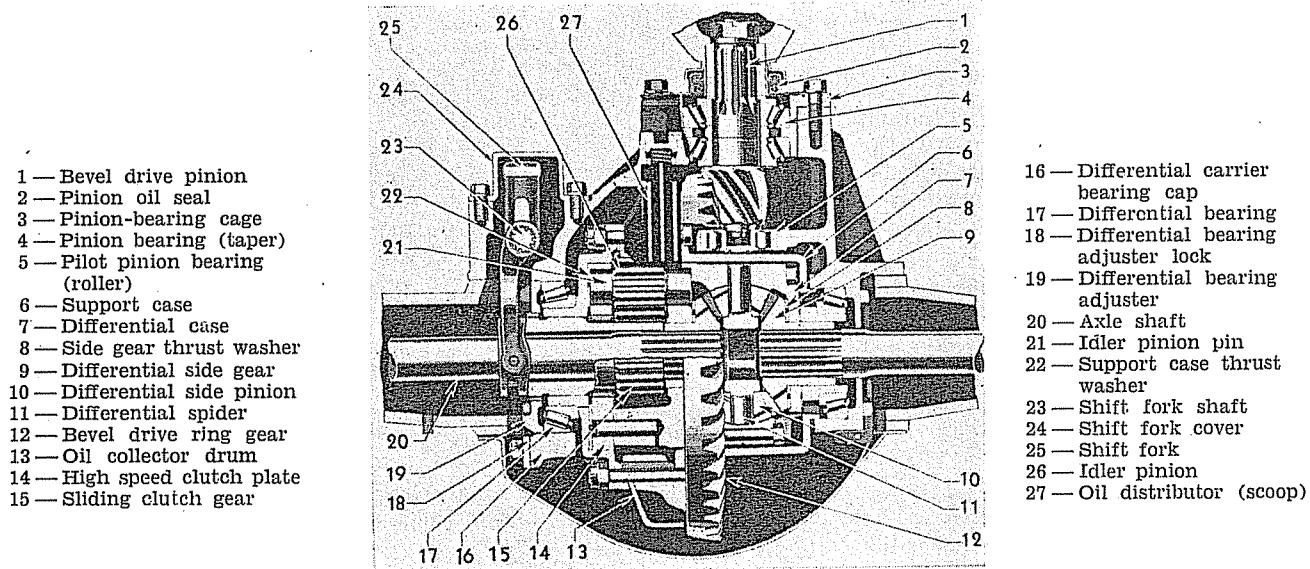
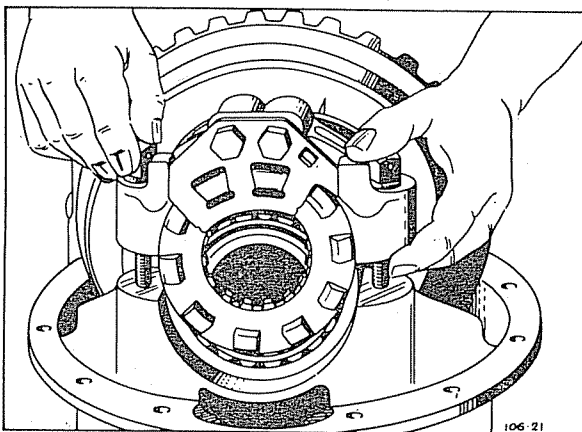

Fig. 38—Key to Identification of Parts.
Fig. 41—Removing or Installing Bearing Cap, Adjuster and Lock Assembly.
Refer to Figure 38.
Instal carrier assembly in a suitable fixture and proceed as follows: refer Figure 38.
- (4) Slip out sliding clutch gear (15) Figure 38.
- (5) Mark right hand differential bearing adjuster with centre punch to identify for re-assembly.
- (6) Remove differential carrier cap bolt, lock wires on both right and left hand sides. Loosen cap bolts only, take off right hand bearing adjuster lock and cotter pin.
- (7) Remove left hand differential bearing cap adjusters and lock as an assembly to assure correct positioning of gear on assembly. (When re-assembling hold adjuster and bearing cap up away from threads in bore of carrier until cap bolts are started). Drop cap and then the threads of the adjuster and those in the carrier will mesh freely. (Figure 41).